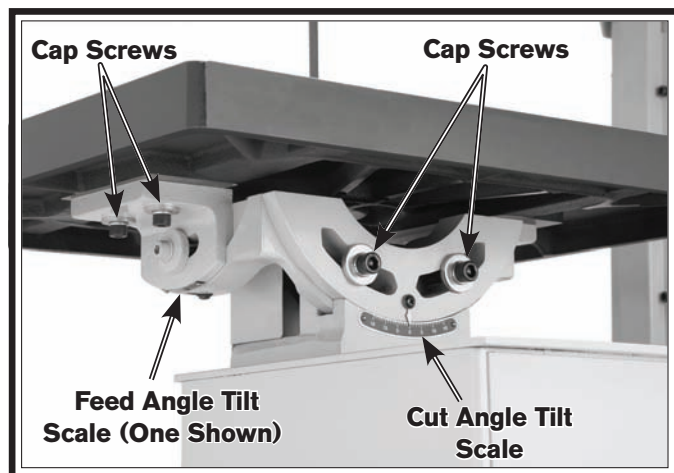

Figure 27. Table tilt adjustment controls.
2. Use an 8mm wrench to loosen the two cap screws on the cut angle trunnion underneath the rear of the table (see **Figure 27**).
2. Use a 6mm hex wrench to loosen both sets of cap screws on the two feed angle tilt scale brackets (see **Figure 27**).